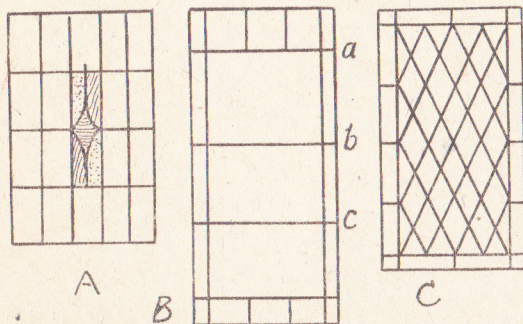

Fig. 1—Some simple patterns to use
Two samples are given in Fig. 1, at (A) and (C) and it is entirely optional on the reader's part whether he accepts the designs as they are, or in the case of (A) omits the central ornament, and in (C) ignores the border. A sheet of designs can also be bought for a few pence.